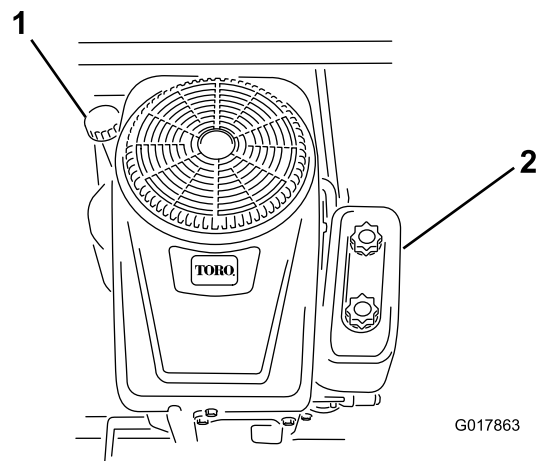

Figure 29
4. Clean around the oil dipstick (Figure 29) so that dirt cannot fall into the fill hole and damage the engine.
- Slowly pour about 80% of the specified amount of oil into the fill hole (Figure 29). Check the oil level; refer to the Checking the Oil Level procedure.